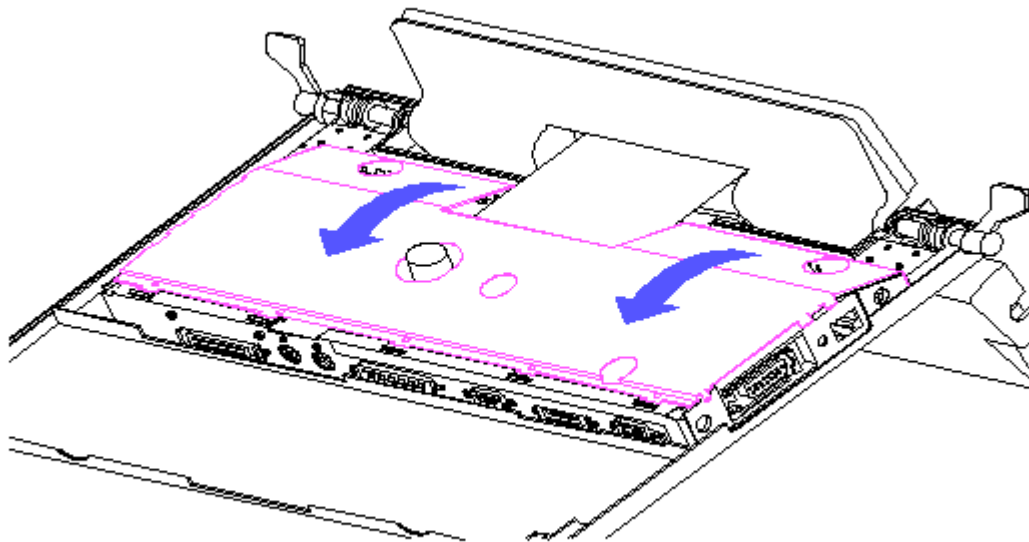

Figure 4-7. Metal Pan Cover Removal
4. With the FlexConnect in the raised position, remove the metal pan cover from the interface board assembly (Figure 4-7).
3. Remove the metal pan cover (Figure 4-7).